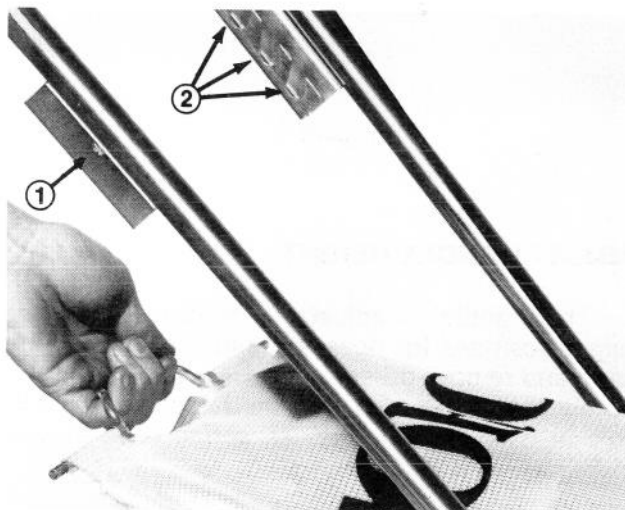

Figure 7
5. Set rear of bag into highest notch in brackets that will allow bag to easily fit (Fig. 7).